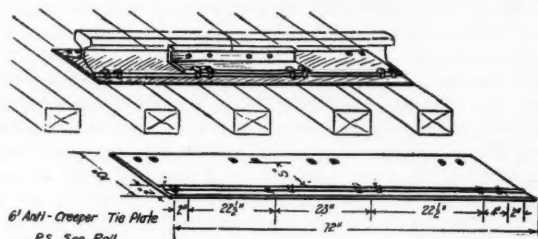
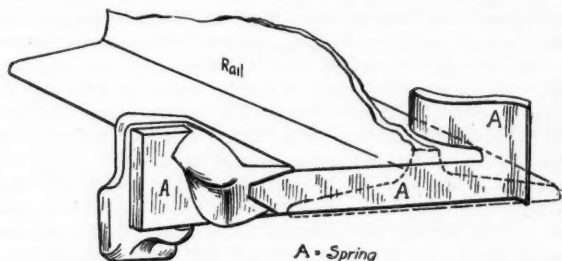
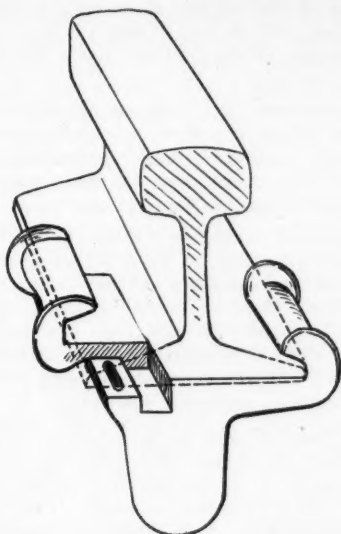

Figure 1.
Figure 2.
Figure 3.
slight descending grade at an average speed of 40 miles per hour, the excessive wave motion, etc., the tendency for track to creep is much above the ordinary, making it necessary to use at least 12 to 20 anti-creeper per rail length. The devices used must necessarily be of an extraordinary type. At present we have the 6 ft. anti-creeping tie plate (see Figure 1), which is suspended over 4 ties, 2 joint and 2 guard ties, used in conjunction with plain splice bars, and opposite each joint four (4) anti-creeper of either the type in Fig. 2 or type in Fig. 3. The device in Fig. 2 costs \$0.16 complete, ready for application, and the spring part may be ordered separately and replaced for \$0.10 per spring. There is no wear out to casting part, as it will last for years. The creeper, Fig. 3, has also proved very efficient; they have a lug on either side, which is a very commendable feature, giving them as it does more direct bearing on either side of the rail, thereby increasing the resisting qualities over that afforded by many other devices. The creeper costs approximately the same as does the Fig. 2 type.